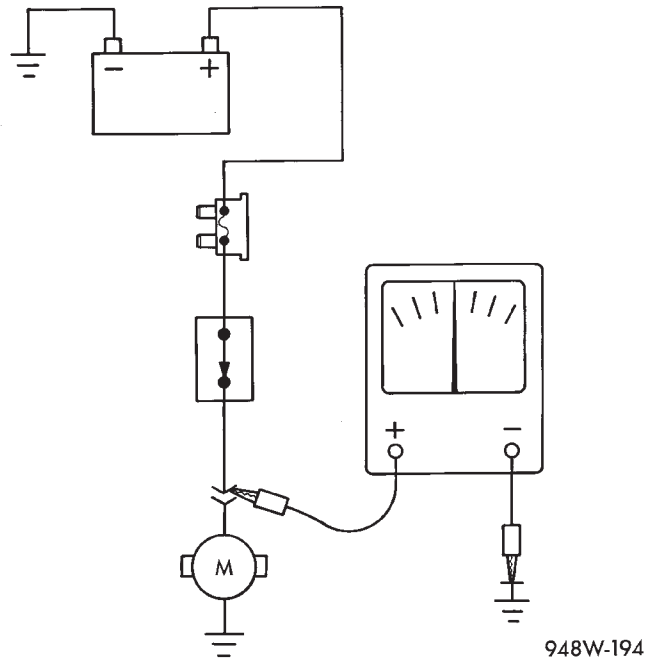

Fig. 7 Testing for Voltage Potential
- (1) Connect the ground lead of a voltmeter to a known good ground (Fig. 7).
- (2) Connect the other lead of the voltmeter to the selected test point. The vehicle ignition may need to be turned ON to check voltage. Refer to the appropriate test procedure.